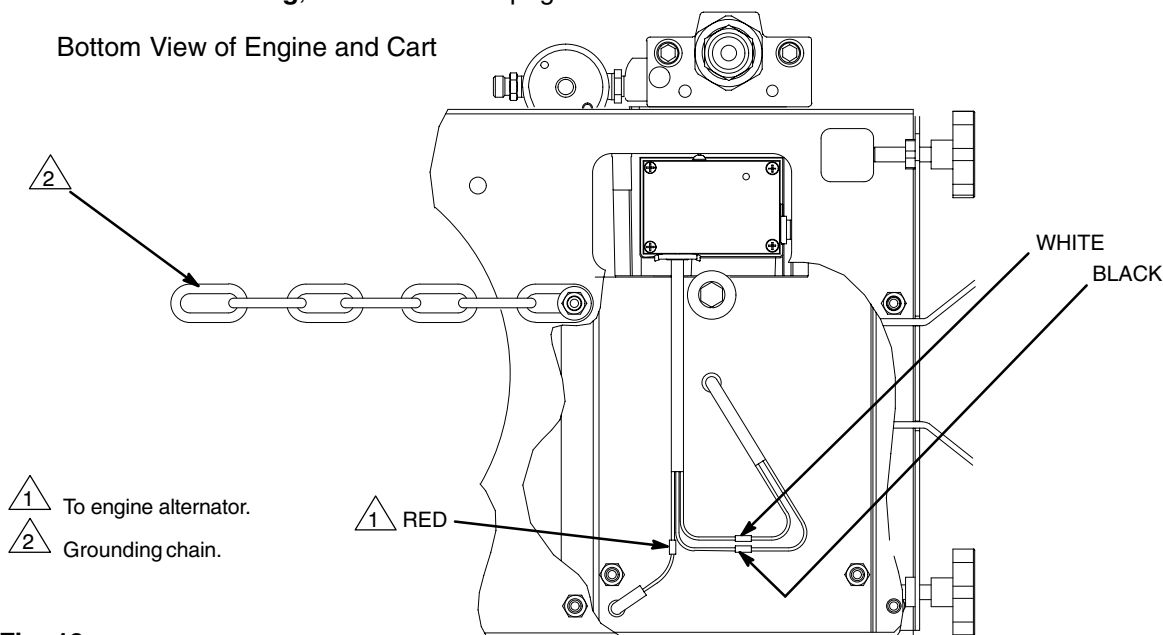

Fig. 19
5. Place the **engine (59)** and drive assembly on the mounting plate. Align the mounting holes. Carefully guide the engine wire and wiring harness (E) from the field, through the appropriate grommets (24) in the mounting plate (A). Install the flange screws (71) and locknuts (46). Install the screw (20), lock washer (73), and washer (21). Tighten all three screws. Connect the engine wire to the red wire (B), and connect the black and white wires as shown in the Detail drawing in Fig. 19. Place the engine and drive assembly and mounting plate on the cart. Install the four mounting plate screws (x), washers (Y), and nuts (Z).